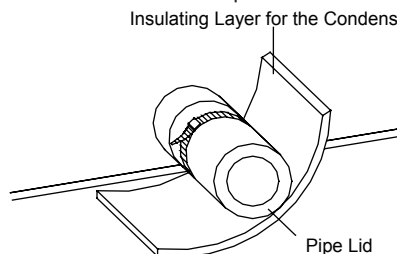

Fig.13 Thermal Insulation of the Condensate Pipe
- (1). The condensate pipe should keep 1/4 bubble or an angle of $5 \sim 10^\circ$ which can facilitate the drainage of the condensate water. And the joints of the condensate pipe should be insulated by the insulation material to prevent condensing (see Fig.13).